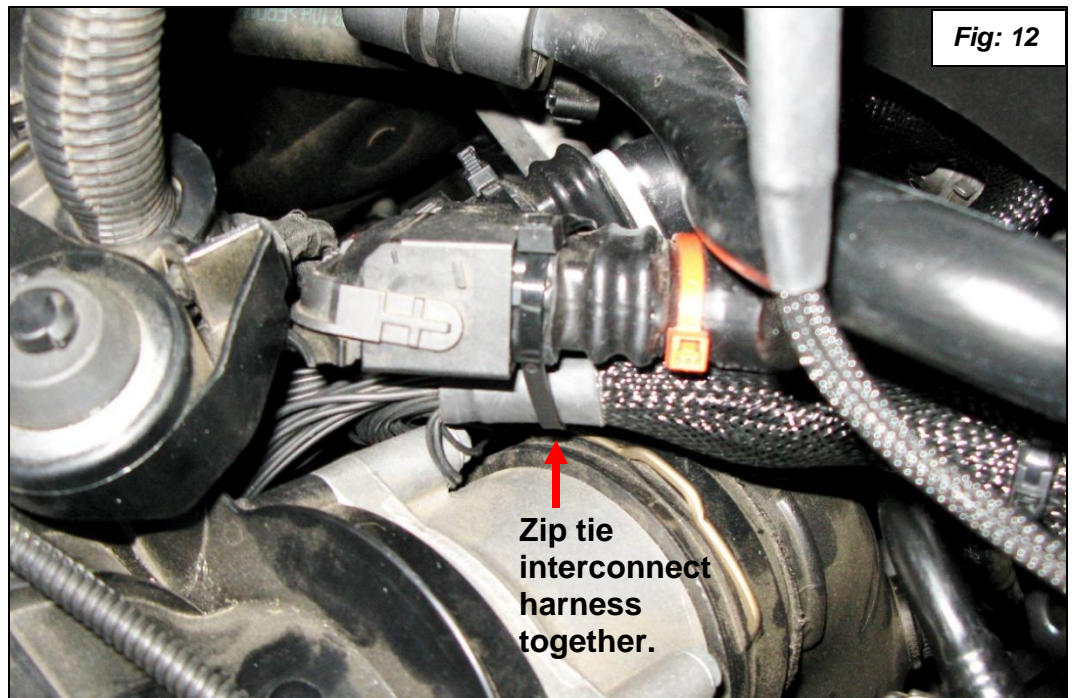
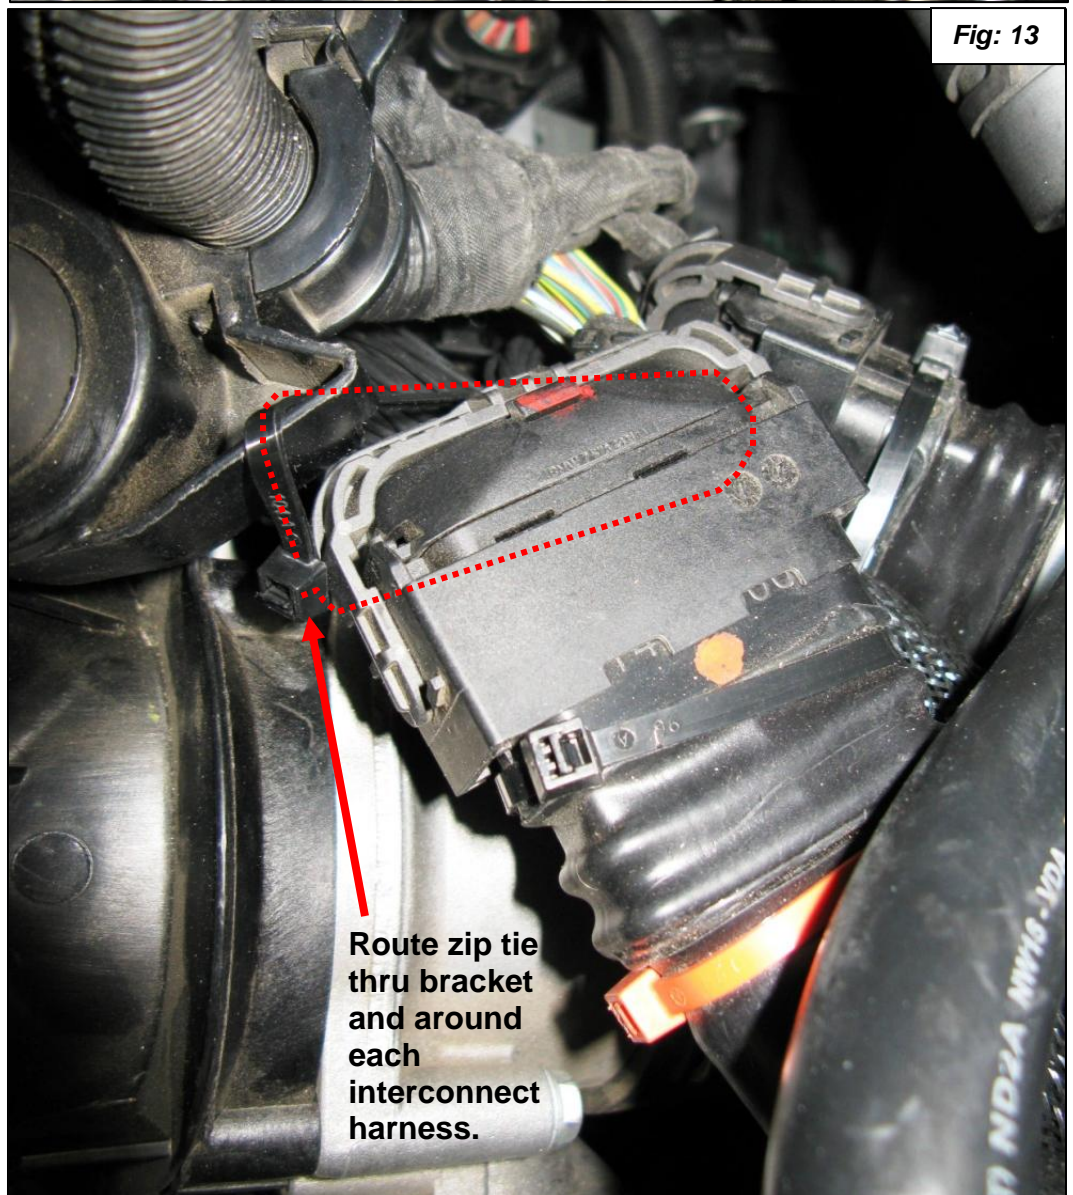

Fig: 12
Fig: 13
13. Swing all the Interrupt sections down out of the way; position and zip tie them as shown in figures 12, 13 and 14. First zip tie the front connect harness to its self as shown in figure 12. Then zip tie the pair of interconnects with a long zip tie thru the bracket and around both interrupt sections as close to the connectors as shown in figures 13 and 14.